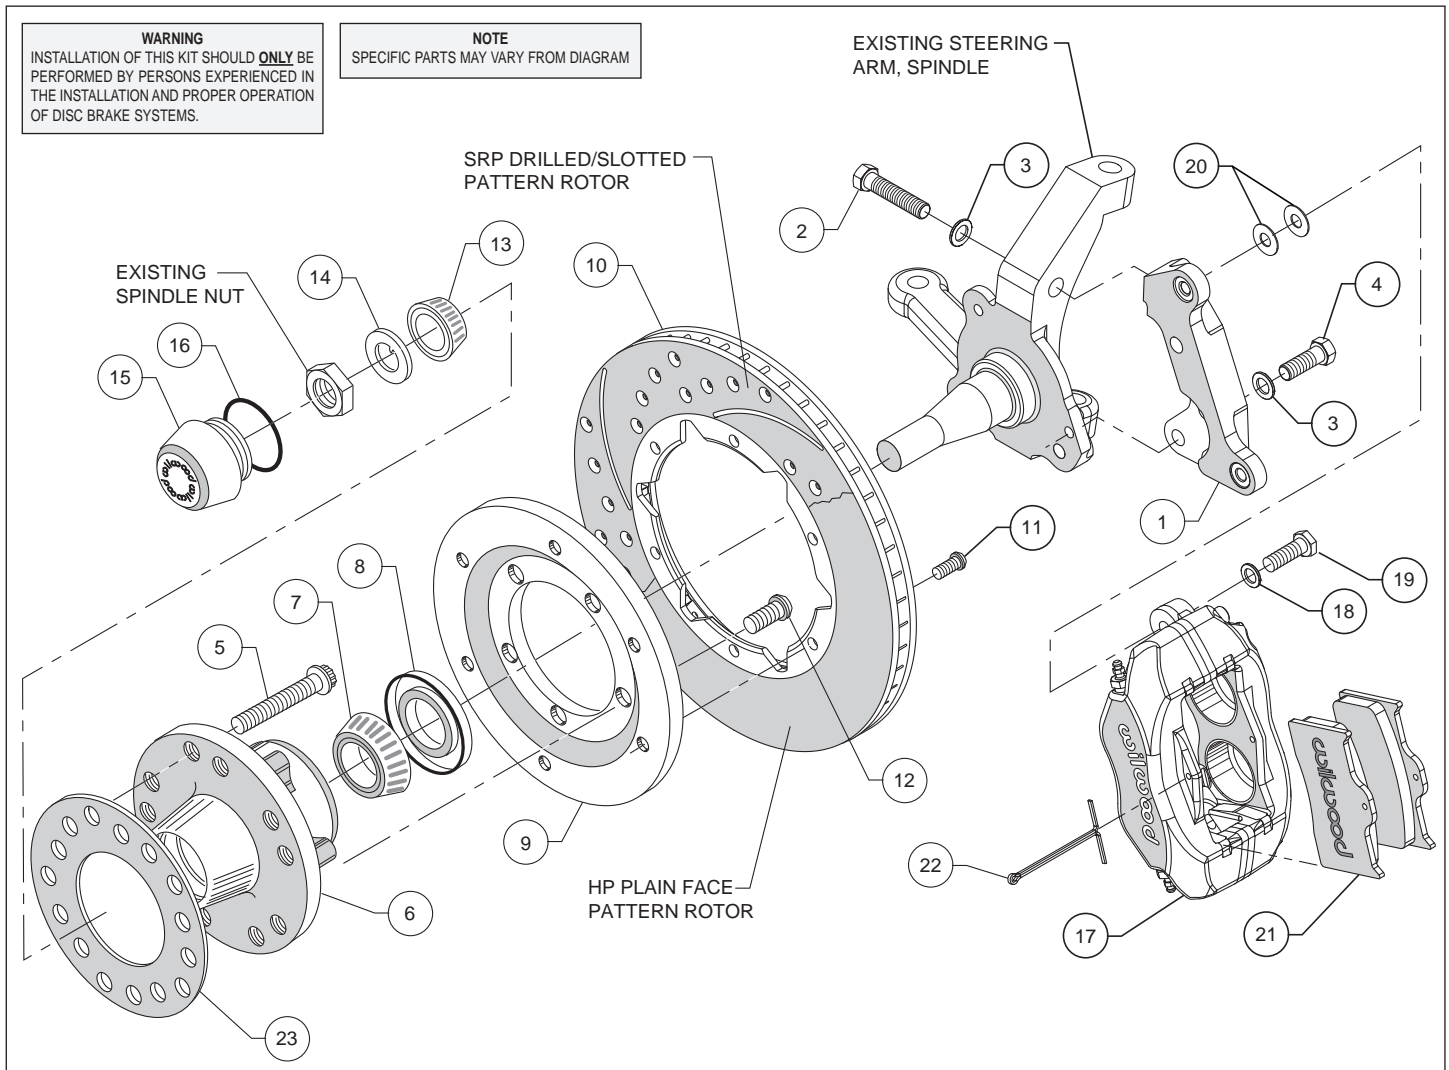
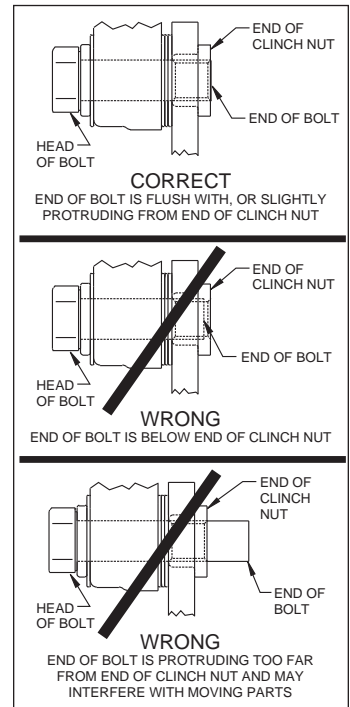

Figure 1. Typical Installation Configuration
Figure 3. Clinch Nut Engagement Diagram
**Assembly Instructions** (numbers in parenthesis refer to the parts list, on the preceding page and Figure 1): **CAUTION:** All mounting bolts must fully engage clinch nuts. Be sure to check that all bolts are either flush or protruding through flanged side of clinch nut after shimming, Figure 3.
- Align caliper mounting bracket (1) with the corresponding holes on the spindle. Attach using bolts (2 and 4) and washers (3) as shown in Figure 1 and Photo 1. Temporarily tighten the mounting bolts. Ensure that the flanged heads of the clinch nuts in the bracket are facing outboard, Photo 1. **NOTE:** The bracket must fit squarely against the mounting points on the spindle. Inspect for interference from casting irregularities, machining ridges, burrs, etc. Remove bolts one at a time, apply red *Loctite*® 271 to threads and torque to 47 ft-lbs.
- Orient the rotor (10) and the rotor adapter (9) as shown in Figure 1 and Photo 4. Attach the rotor to the adapter using bolts (11). Using an alternating sequence, apply red *Loctite*® 271 to the threads, and torque to 25 ft-lb.
- Mount the adapter/rotor assembly (9/10) to the hub (6) using bolts (12), as shown in Figure 1 and Photo 5. Using an alternating sequence, apply red *Loctite*® 271 to the threads, and torque to 55 ft-lb.
- NOTE:** Please reference the caution statement at the beginning of the assembly instructions. Mount the caliper (17) onto the caliper mounting bracket (1) using bolts (19) and washers (18), as shown in Figure 1. Initially place two .035" thick shims (20) on each bolt between the caliper and the bracket, Photo 8. Temporarily tighten the mounting bolts and view the rotor (10) through the top opening of the caliper. The rotor should be centered in the caliper, Photo 9. If not, adjust by adding or subtracting shims between the bracket and the caliper. Always use the same amount of shims on each of the two mounting bolts. **NOTE:** The end of each bolt must be flush with or slightly protruding from the head of the clinch nut, as shown in Figure 3. If necessary place spare shims between washer (18) and caliper mounting ear to achieve the proper clinch nut engagement. Once the caliper alignment and clinch nut engagement are correct, remove the bolts one at a time, apply red *Loctite*® 271 to bolt threads, and torque to 40 ft-lb.